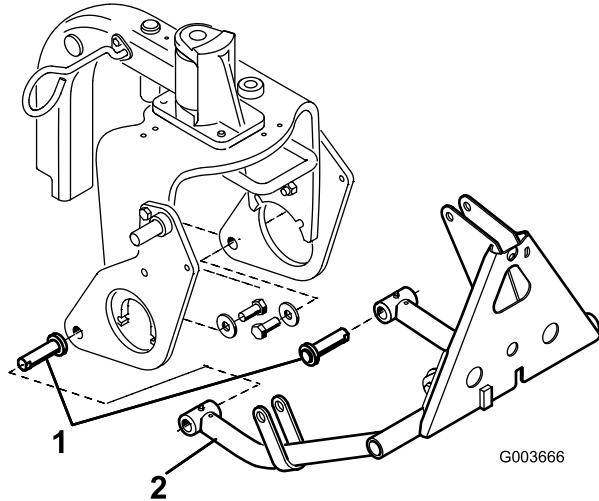

Figure 8
3. Insert a cylinder pin into each push arm tube as shown in Figure 8.
4. Insert the push arm tubes onto the right and left plow plates aligning the cylinder pin guides with the holes in the plow plates (Figure 8).
5. Mount each cylinder pin to each plow plate with a bolt (5/8 x 1-1/2 inches) and a washer (1.68 O.D. x .65 I.D.) as shown in Figure 8. Torque the bolts to 150 ft-lb.